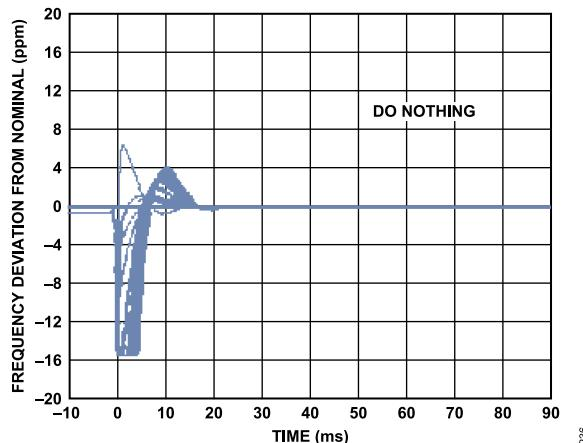

Figure 43. Wait for Zero Phase Error (No Divider Reset)
**Figure 41** to **Figure 43** compare the holdover release methods: resetting the dividers vs. DAC assisted release, and uncontrolled release (which starts with a phase error of up to one PFD period) as the device exits holdover and reacquires to a reference signal.